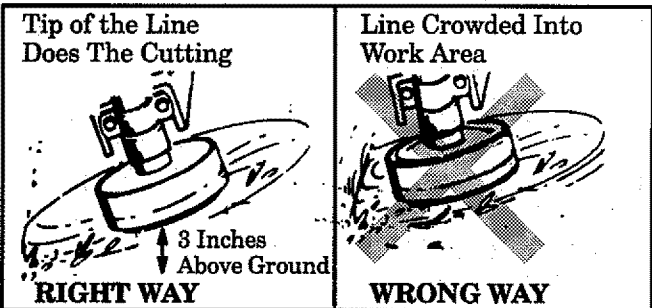

Figure 11
- The tip of the line does the cutting. You will achieve best performance and minimum line wear by not crowding the line into the cutting area. The right and wrong ways are shown in Figure 11 .